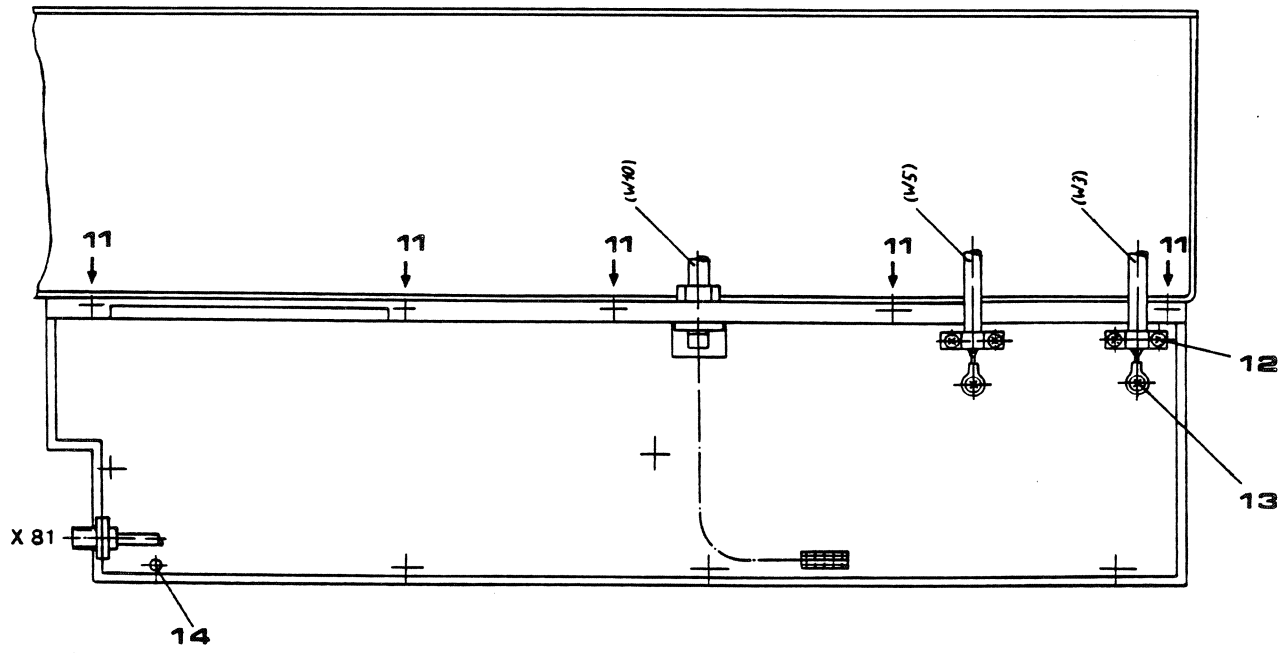

Fig. A.2 Harmonics Filter with Tx/Rx PIN Diode Switch
5. Undo the 32 screws (1, Fig. A.2) that secure the cover of the harmonics filter.
7. Undo the five screws (10) that secure the cover of the harmonics filter control circuit.
9. Fix the Tx/Rx PIN diode switch to the bottom of the harmonics filter with five screws (11).
10. Undo the six screws (14) that secure the cover of the Tx/Rx PIN diode switch.
12. Undo the contact screw (8).
13. Unscrew the cable bracket (7) and the cable clamp (6).
14. Unscrew the cable bracket (12).
15. Undo the screw (13).